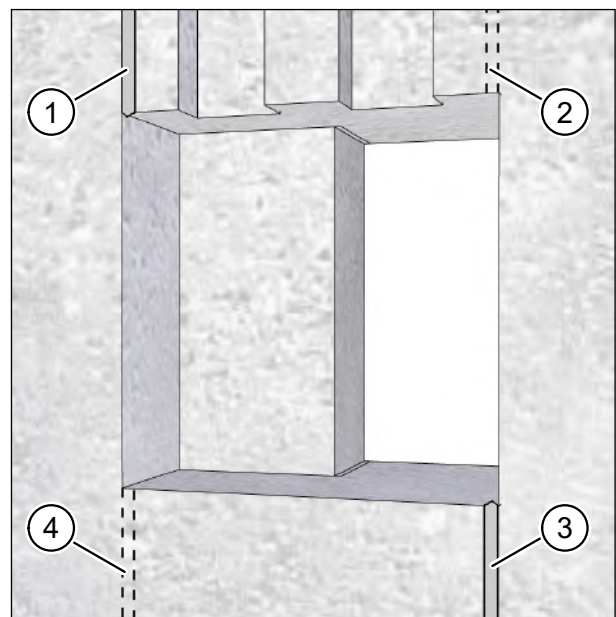

Fig. 14: Chasing out channels for connecting cables
- ▶ Chase one channel for the mains cable (item 1 in Fig. 14) and one for the control cable, if required (item 3 in Fig. 14).
- The wall channels in Fig. 14 are shown by way of example. Alternative wall channels are shown as dashed lines (item 2 and item 4 in Fig. 14). For the subsequent electrical installation work, we recommend running the mains cable from the left and the control cable (if used) from the right at the wall breakthrough.